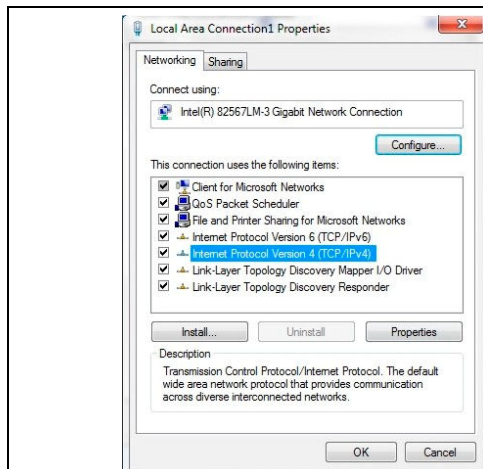
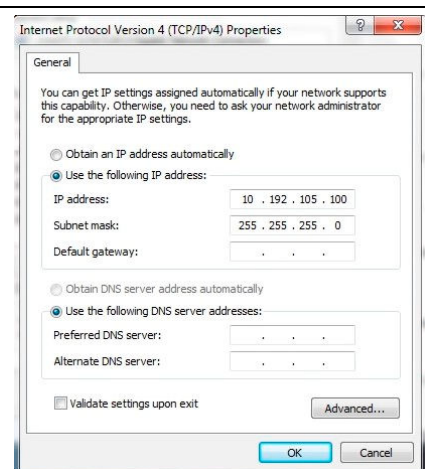

Figure 3-12 Select Internet Protocol 4
Figure 3-13 Verify IP Address
- d. Double-click **Internet Protocol Version 4 (TCP/IPv4)** from the Properties screen Figure 3-12. Verify IP address **10.192.105.100** and subnet mask **255.255.255.0**, Figure 3-13. **Revise if incorrect.**